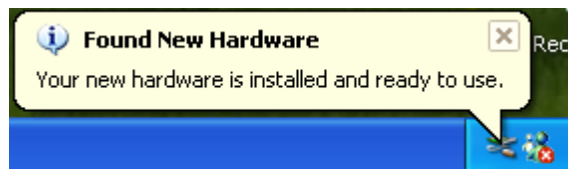

Figure 2-14
**Note:** when connecting the device at the first time, the system prompts that “Found New Hardware. Your new hardware is installed and ready to use.” on the lower right, as shown in Figure 2-14, it means that USB Driver is installed successfully.